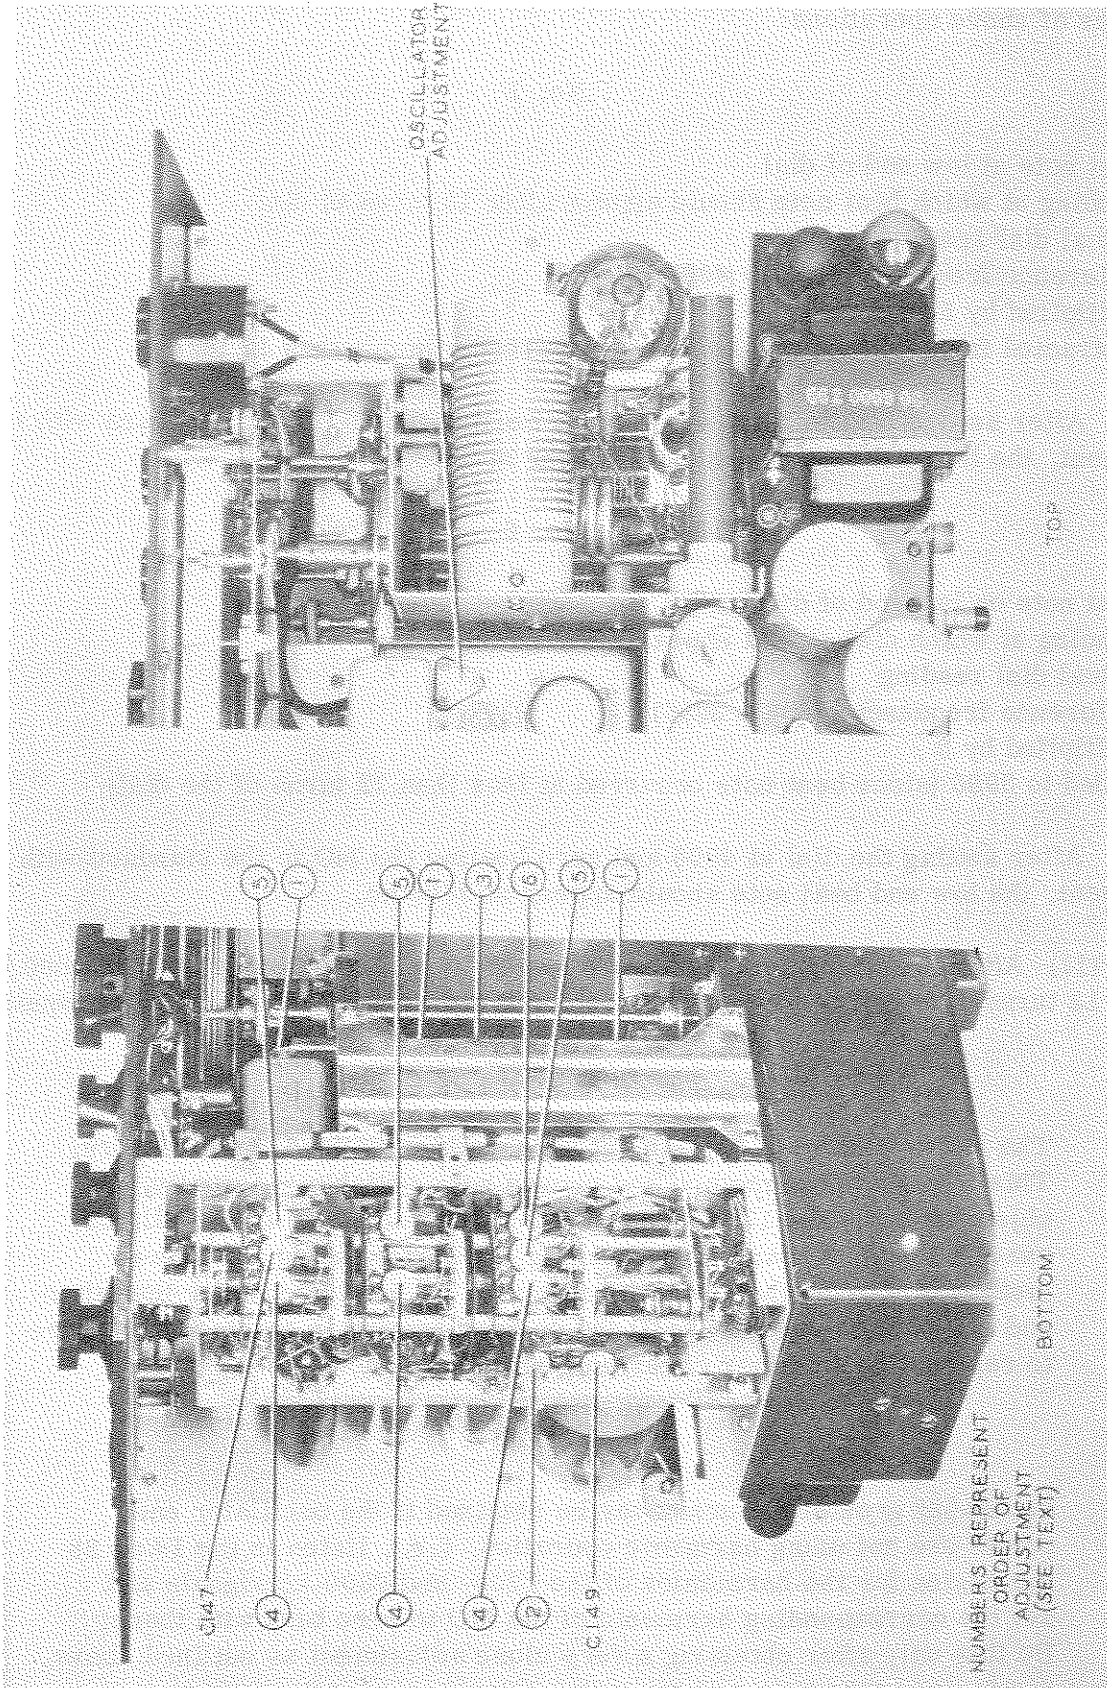

Figure 5-1. Alignment Adjustments
- (1) Remove the transmitter from the cabinet and tip it up on end (r-f section up).
- (2) Remove the fuse from the HV primary. (This allows the low voltage supply to be turned on while the HV supply remains turned off.)
- (3) Turn the LV and HV power switches ON.
- (4) Place the CW-CAL-PH switch in the PH position.
- (5) Place the METER selector switch in the GRID position.
- (6) Adjust for maximum grid current using the adjustments and conditions listed below in order from top to bottom of the list. (Refer to figure 5-1 for adjustment identification.)